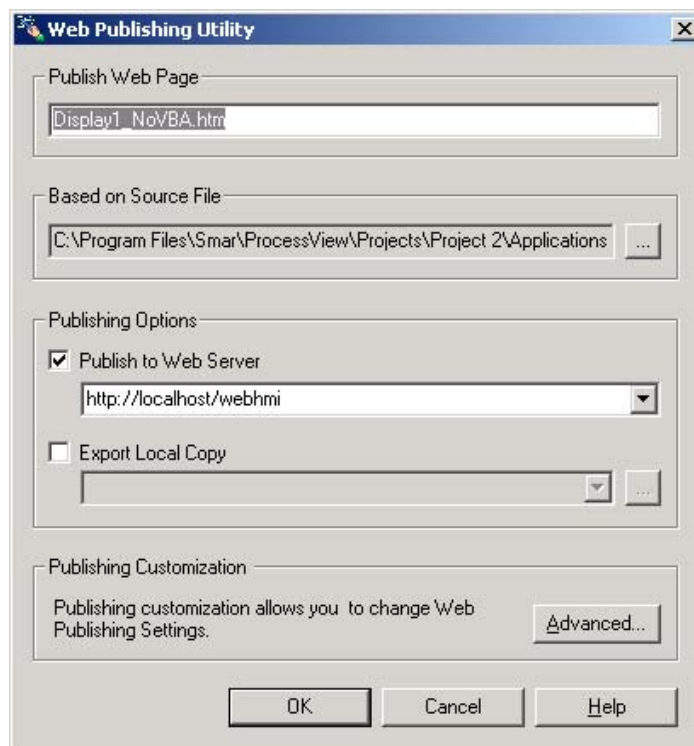

Figure 4.32. Publishing a GraphWorX Display in a Project
2. This launches the Web Publishing Wizard, as shown in **Figure 4.32**. In this case, the **Based on Source File** field in the Web Publishing Wizard dialog is read-only and contains the name of the selected GraphWorX display. The browse (...) button is also disabled.